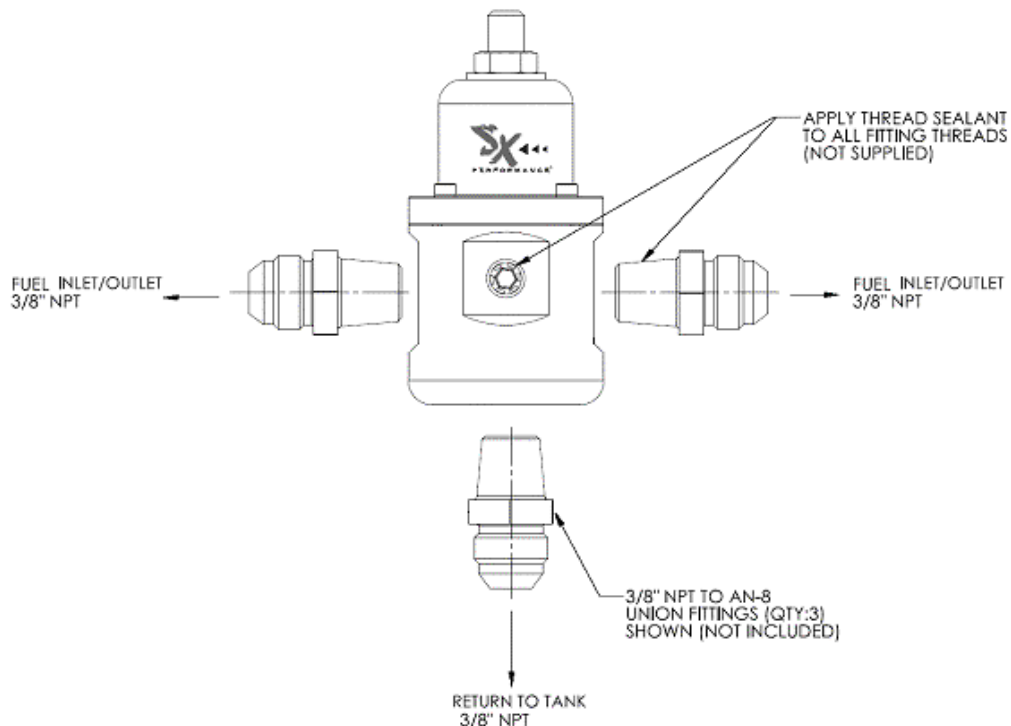

Figure 2 – SX Performance™ Model 15413 Fuel Pressure Regulator Installation
4. With a relief style regulator, (one with a return line back to the fuel tank) the inlet and outlet ports are at the same pressure. The regulator returns unused fuel through the return port to regulate the fuel pressure to all outlet ports. Figure 2 shows the inlet and outlet ports for the regulator. The bottom port (labeled return in figure 2) must be used and is not interchangeable with the inlet/outlet ports. The regulator must be plumbed from this port to the fuel tank. The return line must be 3/8" line size (-6) or larger. The return line at the tank should be plumbed so that the end of the line is near the bottom of the tank and below the fuel level line. Plumbing in this manner will reduce aeration of the fuel. Avoid sharp bends and 90° fittings where possible.
7. Connect and tighten fittings to the inlet/outlet and return lines, see Figure 2.